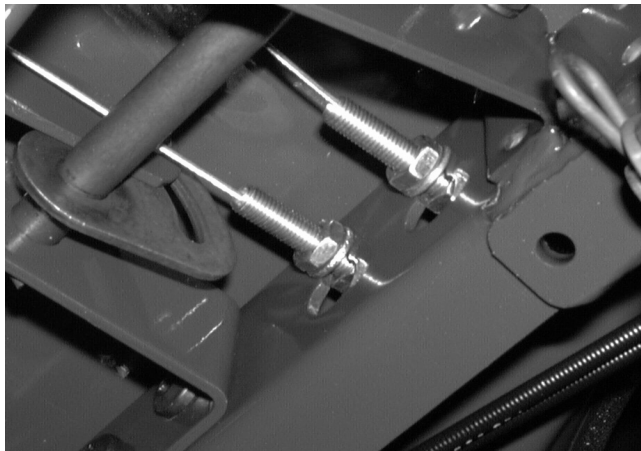

FIGURE 12.
- 39). By hand, tighten the front jam nut to the front of the front channel assembly. See Figure 12.